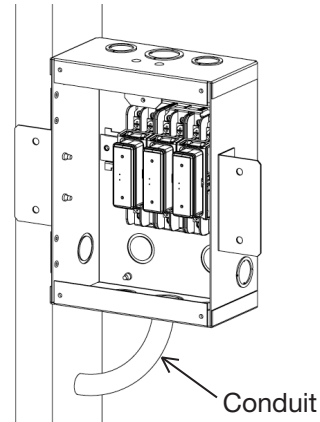

Figure 5
5) Position and secure SPD with mounting brackets to stud. Ensure unit is securely fastened after mounting is complete. (Fig. 5)
6) Run conduit from the SPD unit to the main service panel or disconnect switch. Wire per installation instructions included with SPD unit. (Fig. 5)